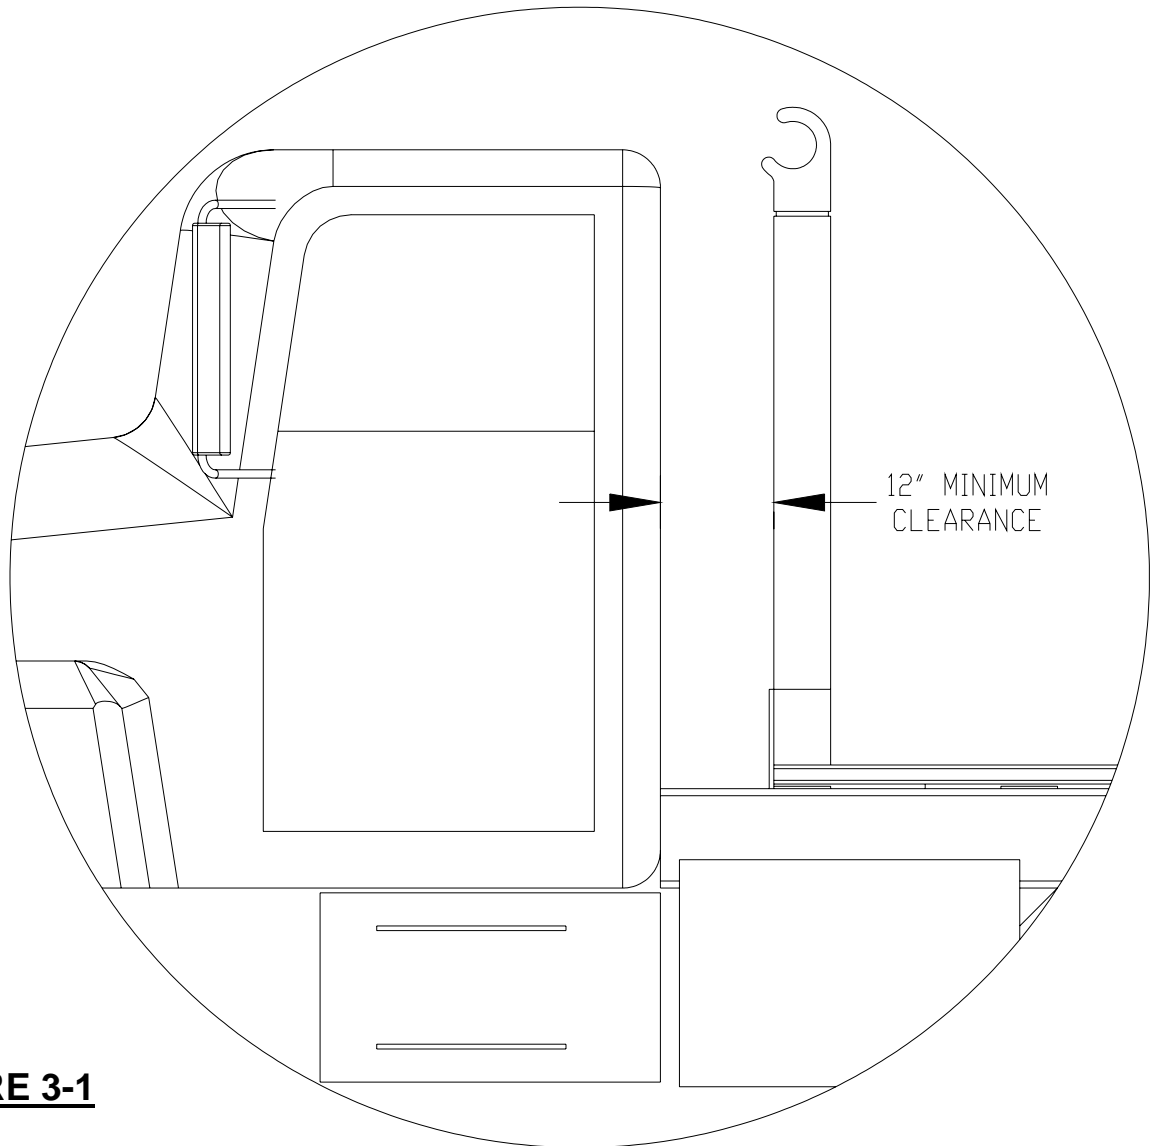

FIGURE 3-1
- A minimum clearance of 12" between the cab and hook-lift (see figure 3-1) is required. If the exhaust system or parts of the hydraulic system are located between the tilt frame and the cab, then you will need a minimum of 12" between these components and the tilt frame. It may be necessary to relocate some components to achieve a 12" clearance.